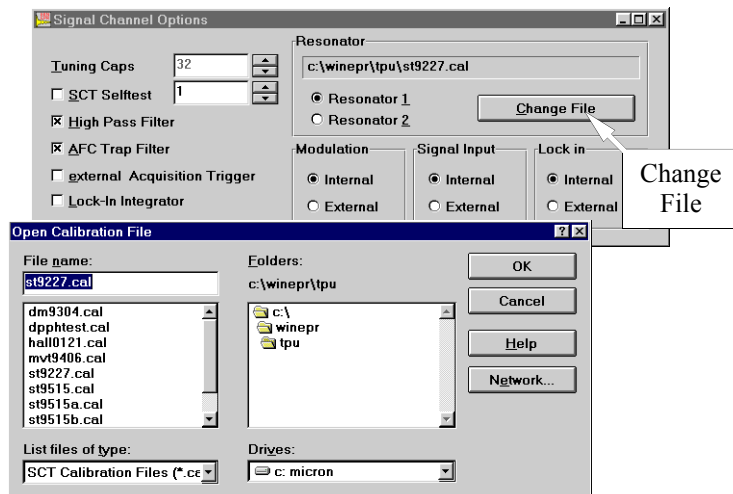

Figure 5-30 The Experiment Options and Open Calibration File dialog boxes.
3. **Read in the calibration file for the cavity.** Open the **Experiment Options** dialog box in order to read in the calibration information. If this window is not already open, click its button (See Figure 5-30.) in the tool bar. The button toggles the dialog box open and closed. The **Experiment Options** dialog box will then appear. Click on the **Change File** button. A new dialog box, **Open Calibration File** will appear. Select the appropriate calibration file for your cavity and click **OK**. This will automatically load the calibration data you have selected. Confirm that the calibration file is the correct one for the cavity. The calibration file name usually consists of two or three letters that identify the type of cavity (ST for ER 4102ST or TM for ER 4103TM) followed by the serial number of the cavity. This number is located on either the front or back of the cavity. Clicking **Cancel** returns you to the **Experiment Options** dialog box.